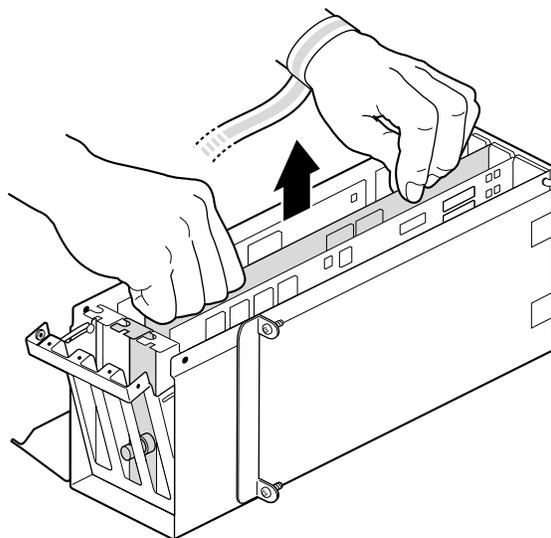

Figure 4-39 Removing a PCI Board
5. Pull up until the board releases, Figure 4-39.